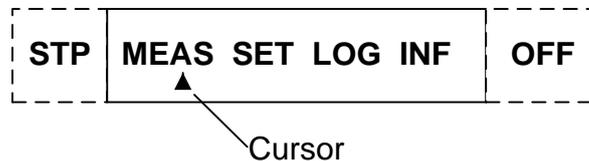

Fig.1. Main menu.
1.1.3. In the WORK mode, when you are not using the keyboard over 60 s LCD display turns off. To activate the display, press any button on the keyboard. The main menu will be displayed (Fig.1):